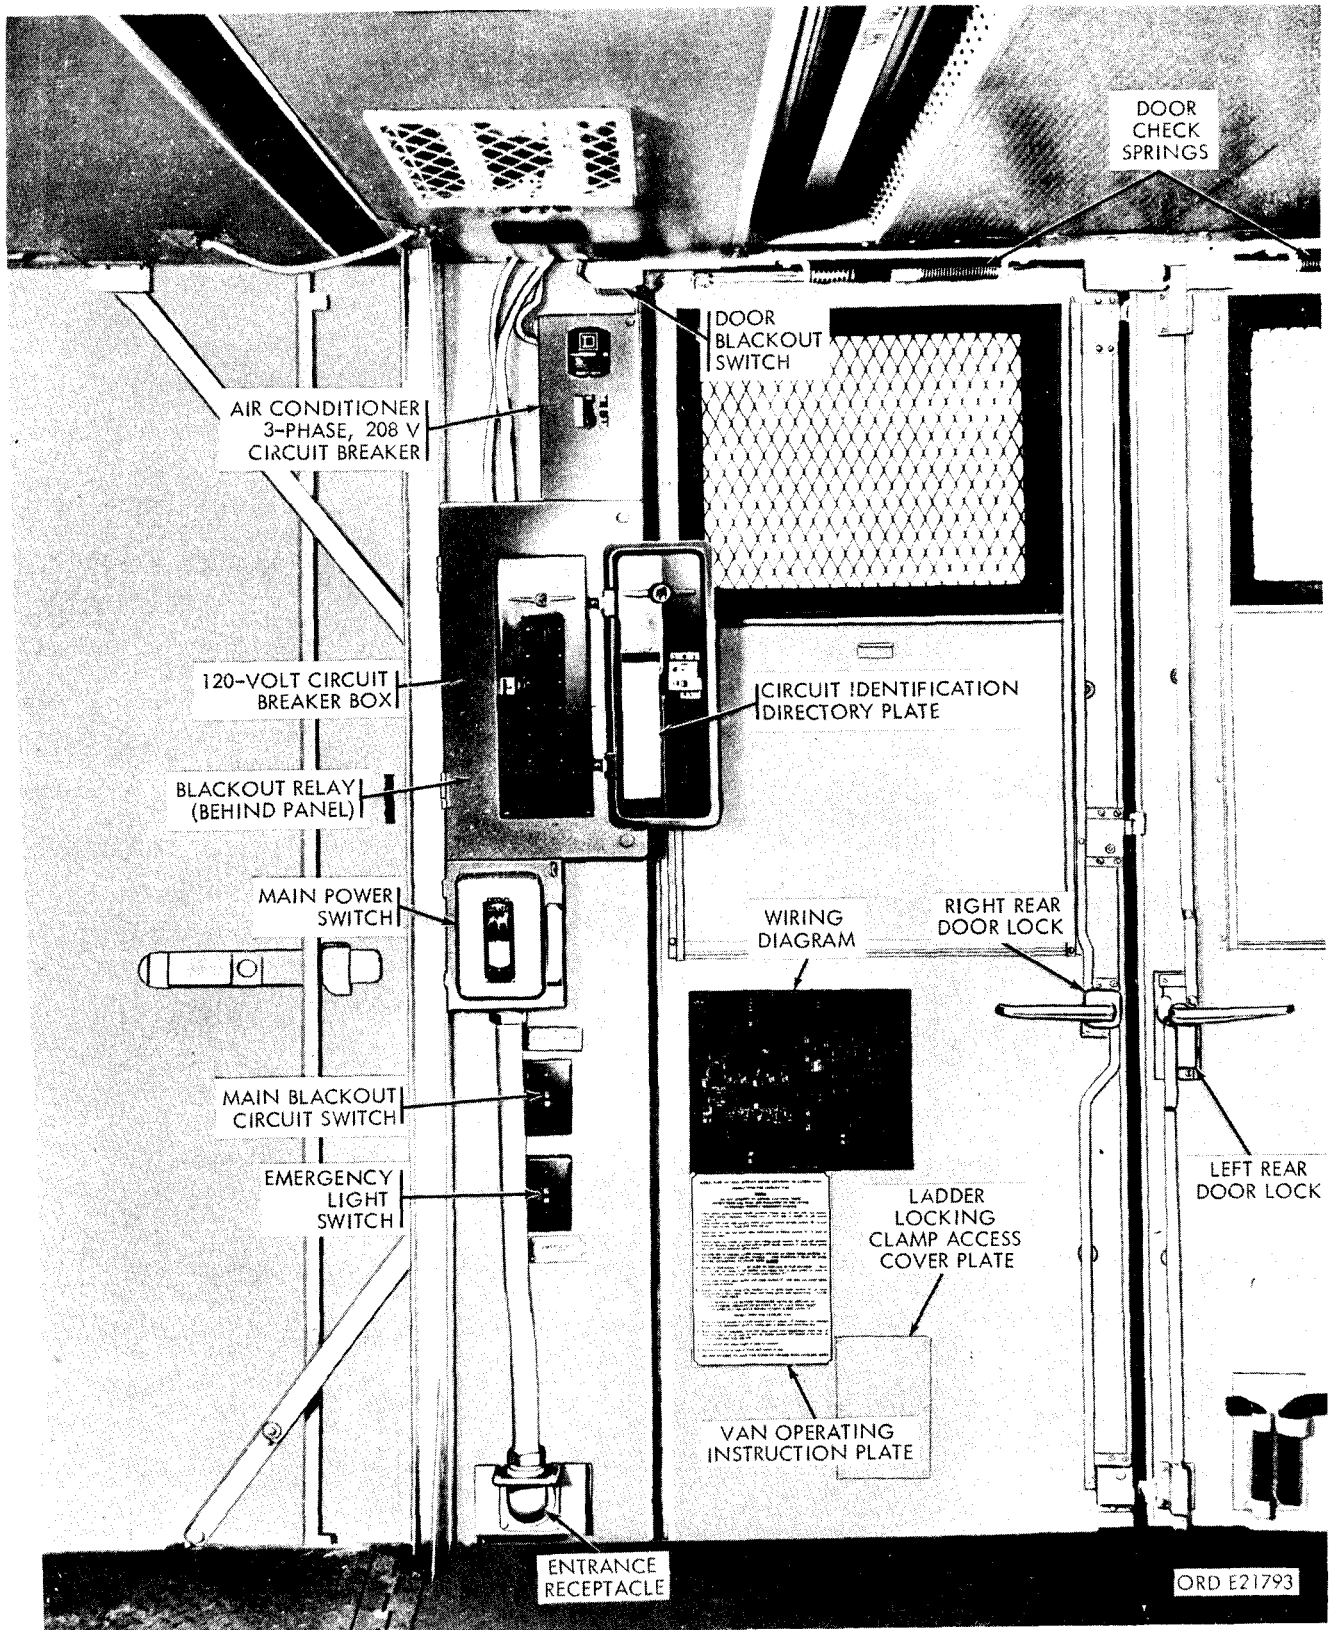

Figure 2-232. Van electrical controls.
(5) *Main power switch.* The main power switch (fig. 2-232) is provided to cut off all external power to the van body electrical system. It contains
(6) *110-volt circuit breaker box.* The 110-volt circuit breaker box (fig. 2-232) provides a distribution and control station for all equipment requiring 110-volt ac power. It contains 12 push type circuit breaker switches, electrically connected in three groups of four each. Each group is connected to one leg of the 3-phase power system, thus providing three individual 110-volt branch circuits. Six of the circuit breaker switches are used in the van body electrical system. The remaining six are available for use with tactical materiel installed in the van body, as required. The circuit breakers function as primary control switches for all 110-volt equipment, and also provide protection for overloaded circuits. The circuit breaker box is covered by a large door which provides access to the interior wiring compartment for maintenance. A smaller door, equipped with a lock and key, permits access to the circuit breaker switches. A circuit identification directory plate is attached to the inner side of the smaller door.
(7) *Blackout relay.* The blackout relay is located inside the circuit breaker box (fig. 2-232). It is a single-pole, double-throw, magnetic type rated at 60 amperes at 110 volts. The relay automatically interrupts the van lighting and receptacle circuits whenever the doors are opened, provided the main blackout circuit switch is in the ON position. However, the individual receptacle blackout switches can override the relay when the operating equipment must be in continuous operation or is not a blackout hazard.
(8) *Main blackout circuit switch.* The main blackout circuit switch (fig. 2-232) controls the blackout circuit. In the ON position, the switch includes the blackout relay in the lighting and receptacle circuits so that these circuits are interrupted by the door-operated switches. In the OFF position, the switch bypasses the blackout relay, eliminating the function of the door-operated switches.
(9) *Door-operated blackout switches.* Three 6-ampere, 110-volt, pushbutton type door-operated blackout switches (fig. 2-232) are located in the van wall near the top of the hinged sides of the two side
(15) *3-phase air condition circuit breaker.* The 3-phase air conditioner circuit breaker (fig. 2-232) is a 3-pole, 20-amp, 250-volt magnetic thermal type used to protect the air conditioner circuit and to shut off power to the air conditioner system during maintenance. It may also be utilized as a emergency switch for the air conditioner when necessary.
(16) 24-volt vehicle clearance and blackout lights are located on the upper front face of the bonnet and on the upper corners of the van rear panel. The clearance lights are placed above the blackout lights and are identical except that the front lights are equipped with amber lenses and the rear lights with red lenses. The clearance and blackout lights are controlled from the vehicle light switch in conjunction with the vehicle lighting system.
*a. Removal.* Working inside the van (fig. 2-232) remove the six screws attaching the cover plate to the rear door, and remove the cover plate. Working outside the van, remove the four nuts and lockwashers attaching the locking clamp to the rear door, and remove the locking clamp.
(Fig. 2-232 and 2-238).